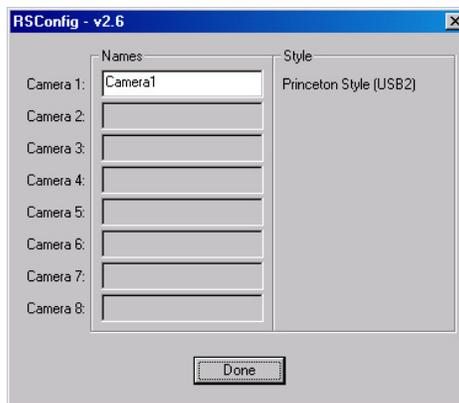

Figure 52. RSConfig dialog box
4. When the RSConfig dialog box (Figure 52) appears, you can change the camera name to one that is more specific or you can keep the default name "Camera1". When you have finished, click on the **Done** button.